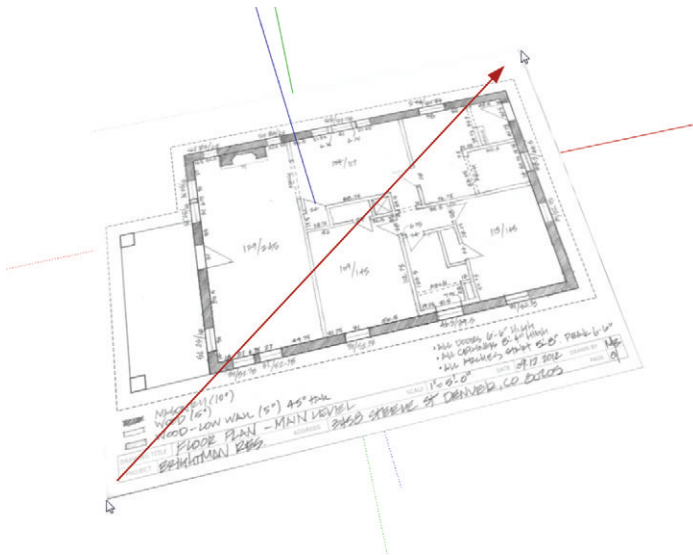

Figure 17.21 You don't need to be precise when you insert the image.
6. Click once to place the image, and then move your cursor away to scale the image. You don't need to be exact right now because you will scale precisely in the next step (Figure 17.21). Click again to finish placing the image.